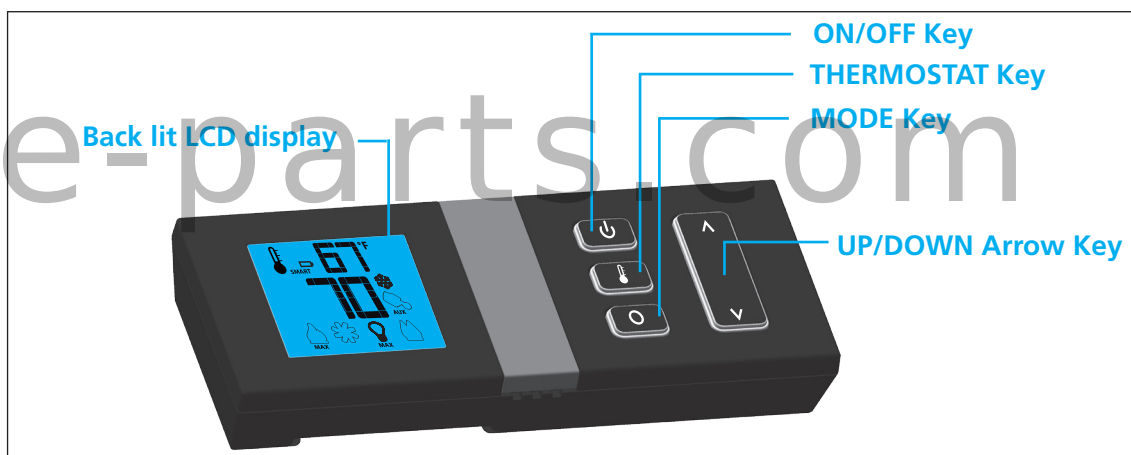
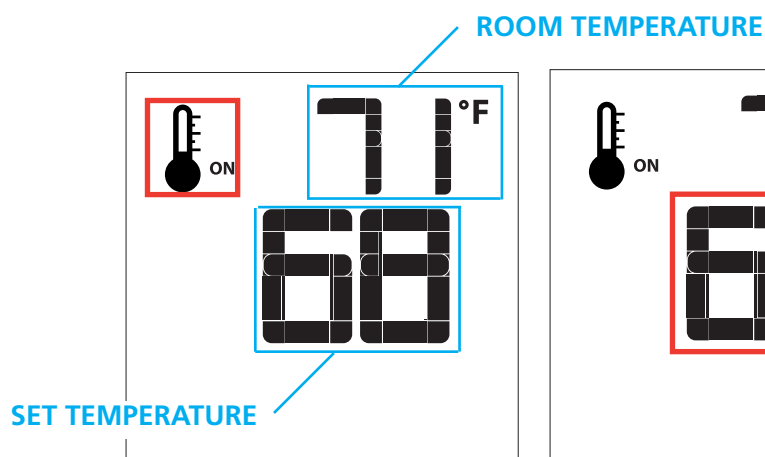
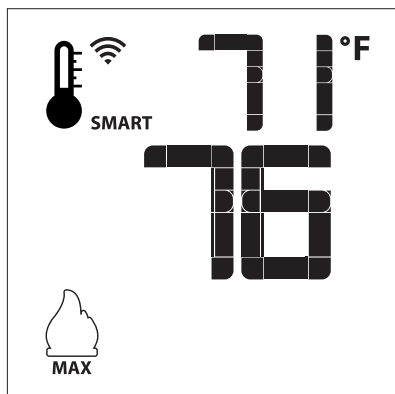
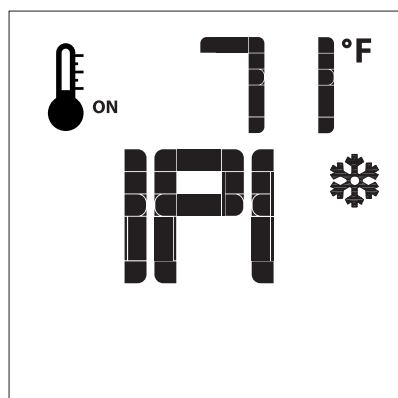

Fig. 1: Proflame transmitter
Fig. 9
Fig. 11: Smart flame function
Fig. 17
The Proflame transmitter uses a streamlined design with a simple button layout and informative LCD display (Fig. 1). A Mode Key is provided to index between the features and a Thermostat Key is used to turn on/off or index through Thermostat functions (Fig. 1 & 2). Additionally, a Key Lock feature is provided (Fig. 23).
To activate this function, press the Thermostat Key (Fig. 1). The LCD display on the transmitter will change to show that the room thermostat is "ON" and the set temperature is now displayed (Fig. 9). To adjust the set temperature, press the Up or Down Arrow Keys until the desired set temperature is displayed on the LCD screen of the transmitter.
To activate this function, press the Thermostat Key (Fig. 1) until the word "SMART" appears to the right of the temperature bulb graphic (Fig. 11).
If the appliance is equipped with a hot air circulating fan, the speed of the fan can be controlled by the Proflame system. The fan speed can be adjusted through six (6) speeds. To activate this function use the Mode Key (fig.1) to index to the fan control icon (Fig. 13). Use the Up/Down Arrow Keys (Fig.1) to turn on, off or adjust the fan speed (fig. 14). A single "beep" will confirm reception of the command.
The auxiliary function controls the AUX relay outlet. To activate this function use the Mode Key (fig. 1) to index to the AUX icon (fig. 15 & 16).
With the system in "OFF" position press the Mode Key (fig. 1) to index to the CPI mode icon (fig. 17 & 18).